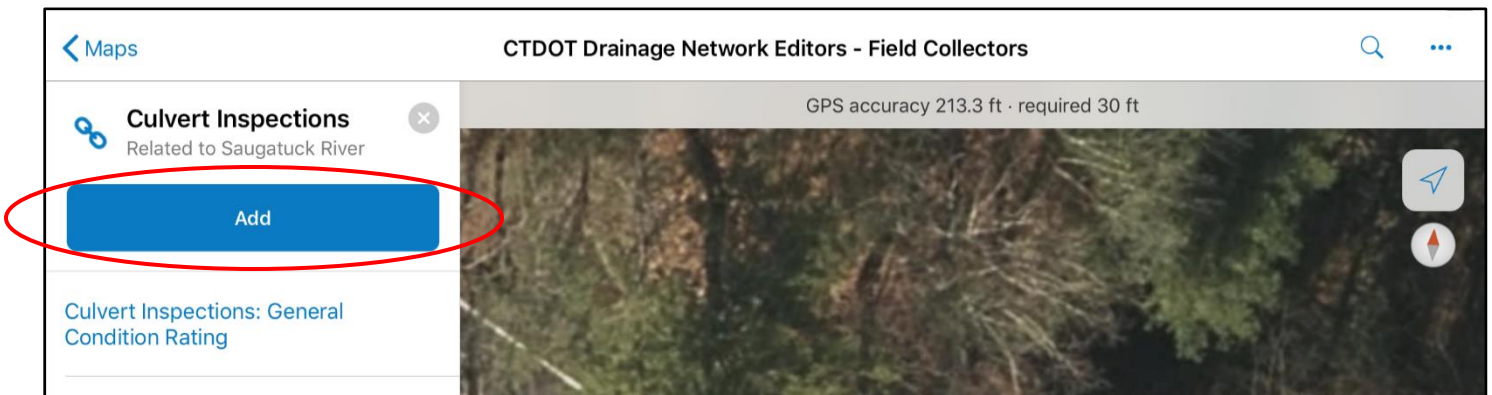

Figure 51. Adding a new inspection record in ArcCollector app.
2. All previous inspections on that asset will be available to review. Click "Add" to create a new inspection record (Figure 51, below).